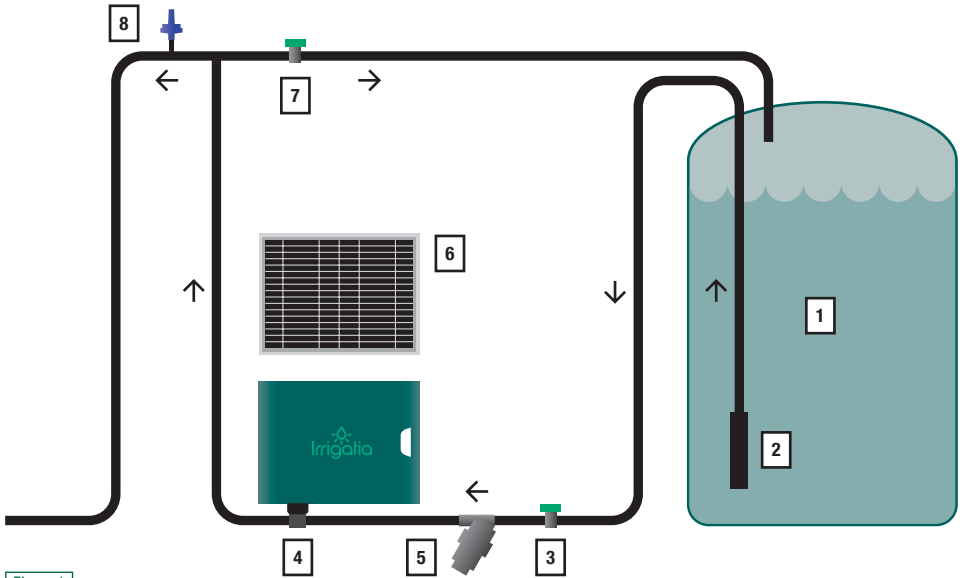

Figure 1
To protect the drippers from debris, there is a fine mesh filter. This can be fitted on either side of the pump, (fig 2) but a valve must be fitted between it and the tank to turn off the water flow while cleaning. (Valve 3 in fig 1).
The anti-siphon is needed to stop the water flow when the pump has stopped if the first emitter is lower than top of the water source. It should be fitted in the delivery tube to the emitters, (it is number 8 in fig1). It can be fitted by making a hole with the punch provided and pushing the blue part of the anti-siphon directly into the tube, threaded end first. Anti-siphon device must be fitted higher than the water source.
- As the bypass valve (Valve 7 in fig 1) is wide open most of the water pumped should return to the tank. Wait until all the air has cleared from the system before VERY SLOWLY starting to close the bypass valve. This will push more water towards the drippers. The valve should be gradually closed until the drippers are dripping about once per second, or the microporous hose is full of water but soft, like a soft bicycle tyre. If you are using micro-porous tube, check the adjustment every few days after installation as when it is wetted up it will emit less water than when newly installed.